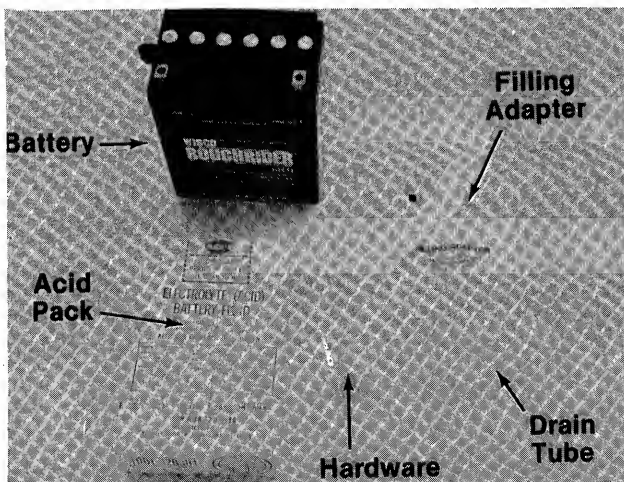

FIGURE 7.
1. Upon opening the battery pack, you should receive acid pack, battery, drain tube, filling adapter and hardware. See figure 7.